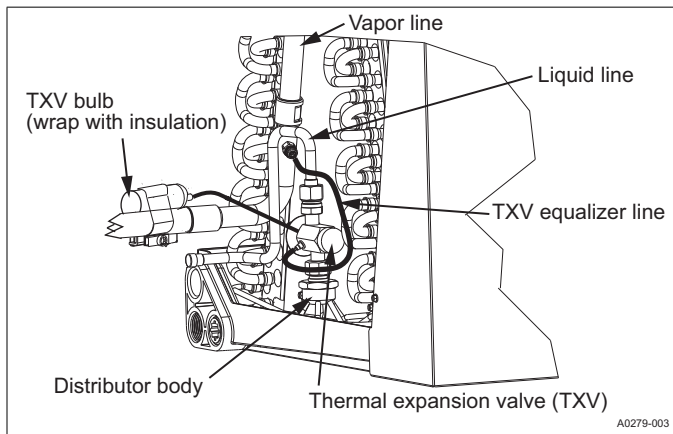
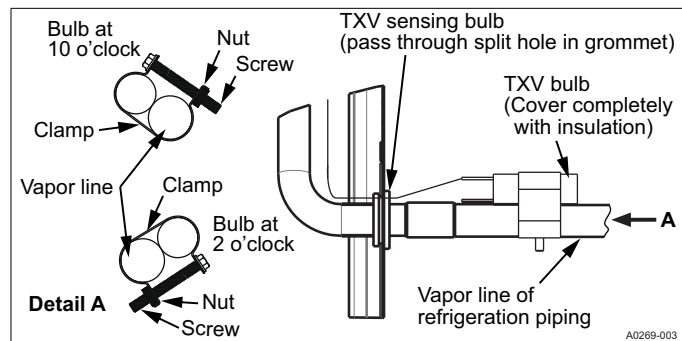

Figure 3: TXV bulb and equalizer line installation (N-coil)
Figure 5: Correct bulb location (N-coil)
6. Install the TXV equalizer line onto the vapor line by hand tightening the 1/4 in. SAE coupling nut to the equalizer fitting and apply an additional 1/3 turn to seal. See **Figure 3**.
8. Install the TXV bulb onto the vapor line near the cabinet, using the bulb clamps furnished with the TXV assembly. Ensure the bulb makes maximum contact. See **Figure 3** and **Figure 5**, and adhere to the following: